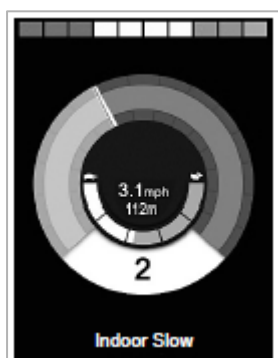

Figure 34
- Release the joystick/button, there will be a long beep and the screen will illuminate (figure 34).